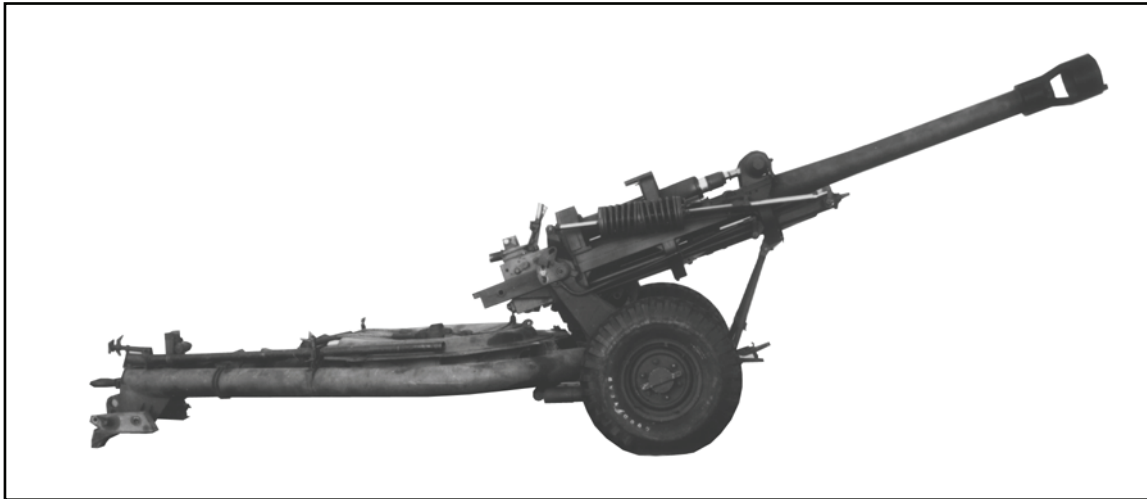

Figure 2. M119, 105-Millimeter Howitzer
- The unrigged M119, 105-millimeter howitzer weighs 4,190 pounds and is shown in Figure 2. Its length is 240 inches, reducible to 192 inches. Its width is 70 inches. Its height is 94 inches, reducible to 54 inches. The howitzer shown in Chapter 3, Section I is rigged with 30 boxes of ammunition and 7 boxes of fuzes weighing 3,713 pounds. The howitzer shown in Section II has the same ammunition load and an 81-millimeter mortar weighing 350 pounds. The howitzers shown in Chapter 4 are rigged with 30 boxes of ammunition, 7 boxes of fuzes, and 1 1/4-ton HMMWV truck. Two M119 howitzers are shown in Chapter 5 rigged with 82 boxes of ammunition on the same platform, as well as a lighter version of this load and a load which includes two 81-millimeter mortars.